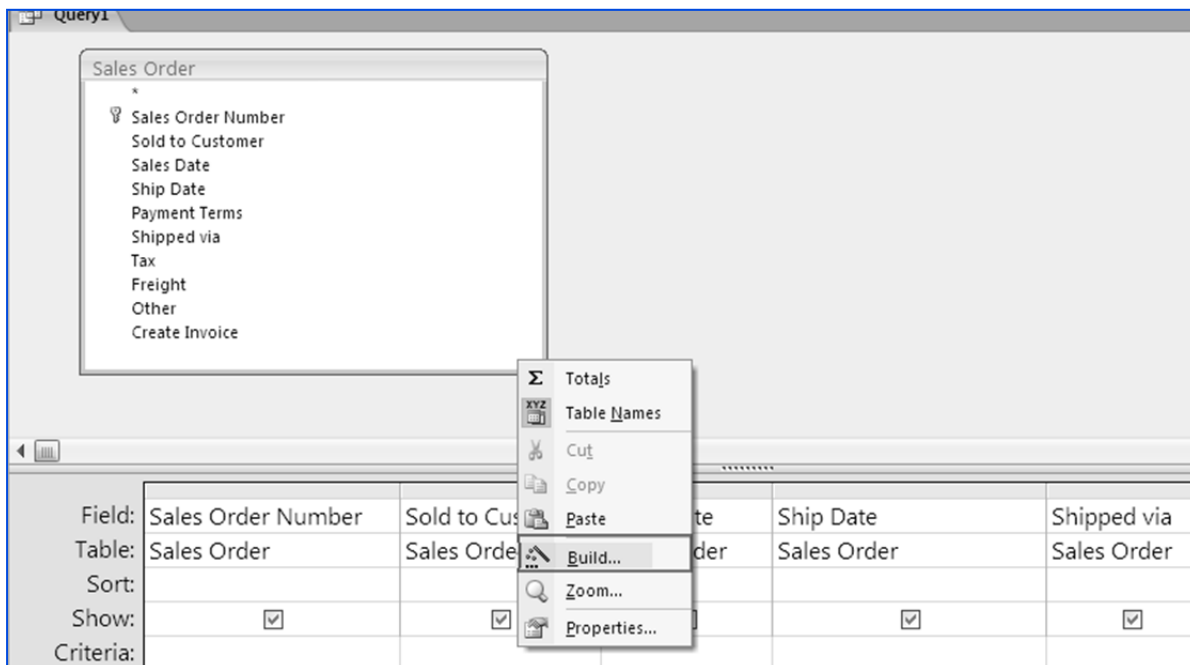

Fig. 3.5.3. Select build from drop down
4. Right-click on the *Criteria* tab of the *Sold to Customer* column and select *Build* from the drop-down, as shown in Fig. 3.5.3. The build will open the *Expression Builder* window.